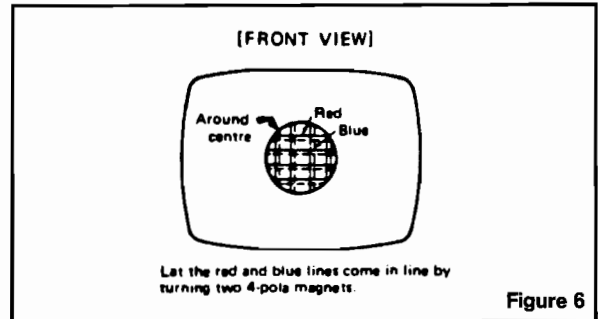

Figure 6
- 2.5 Rotate the 4-pole (middle) pair of magnets as a unit to minimize separation of the red and blue crosshatch lines around the center of the screen (Fig. 6). Variation of the angle between the tabs adjusts convergence of red and blue. (Tilt yoke as required to converge red and blue at the edges as in 2.3 above.)